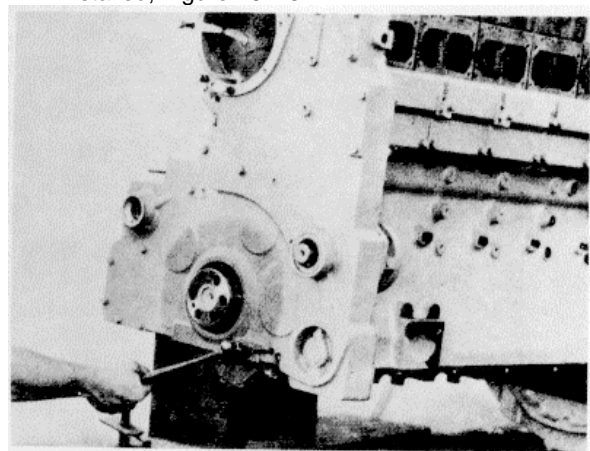

Figure 16N-37. Install the Master Dowel
4. Install and tighten the front cover mounting capscrews in the sequence shown in Figure 16N-38 to 30 to 35 ft-lb (41 to 47 N.m) torque.